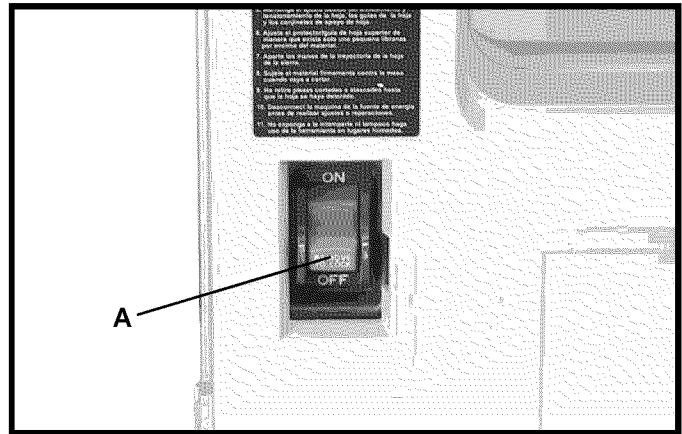

Fig. 20
The switch (A) Fig. 20, is located on the front side of the band saw. To turn the saw “ON” move the switch (A) to the up position. To turn the saw “OFF” move the switch (A) to the down position.